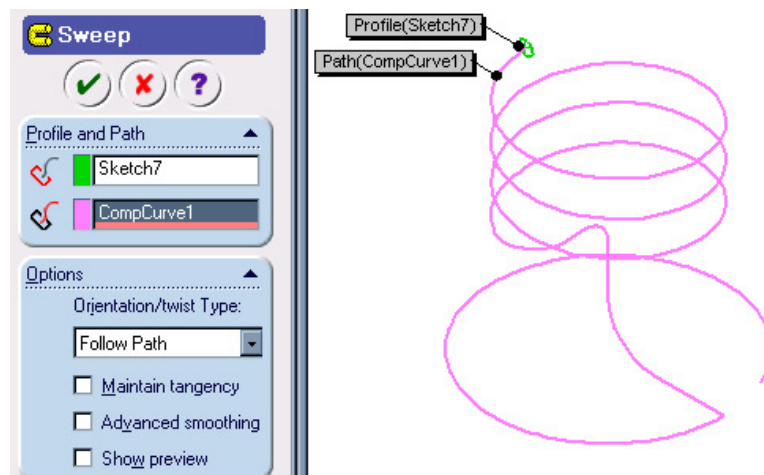

Figure 12 Sweep parameters.
38. Select the circle as the **Profile** , and the composite curve as the **Path**  as shown in Figure 12.